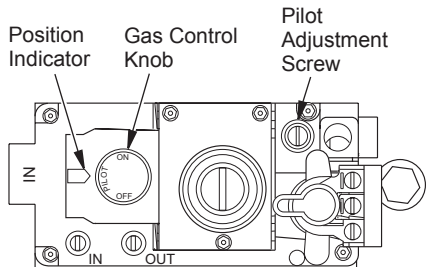

Figure 33 - Control Knob in the PILOT Position
- Turn adjustment screw marked pilot clockwise to decrease or counterclockwise to increase flame to proper size (see Figure 33, page 19). Do not remove adjustment screw.